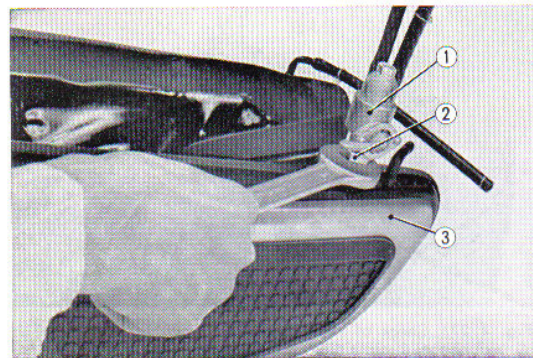

Fig. 4.30 Removing the fuel cock
- ① Joint nut
- ② Fuel cock body
- ③ Cock packing
- ④ Screen
- ⑤ Fuel strainer cup
5. The fuel cock assembly can be removed from the tank by loosening the joint nut and unscrewing the fuel tank assembly. (Fig. 4.30)